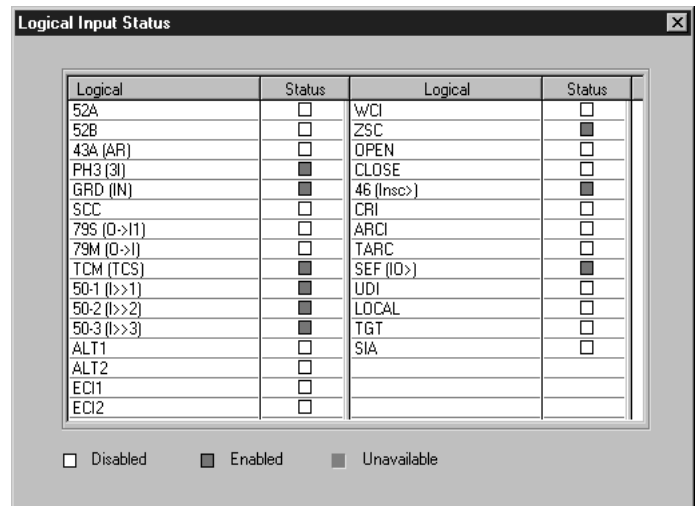

Figure 8-2. Logical Input Status
The Logical Input Status screen (Figure 8-2) displays which functions are enabled or disabled based on the physical input logic. Use this function to verify the actions of programmed logic schemes. With this screen it is possible to view intermediate logic to confirm that the scheme works correctly and produces the desired results. Note that the GRD (3I), PH3 (IN), 46 (Insc>), 50-1 (I>>1), 50-2 (I>>2), 50-3 (I>>3), TCM (TCS), ZSC, and SEF* (I0 >) input functions are enabled by default. Therefore, they need not be mapped to physical inputs in the Programmable Input Logic Map (see Section 6) if it is desired to use them. **This feature is not available through the front-panel MMI.**